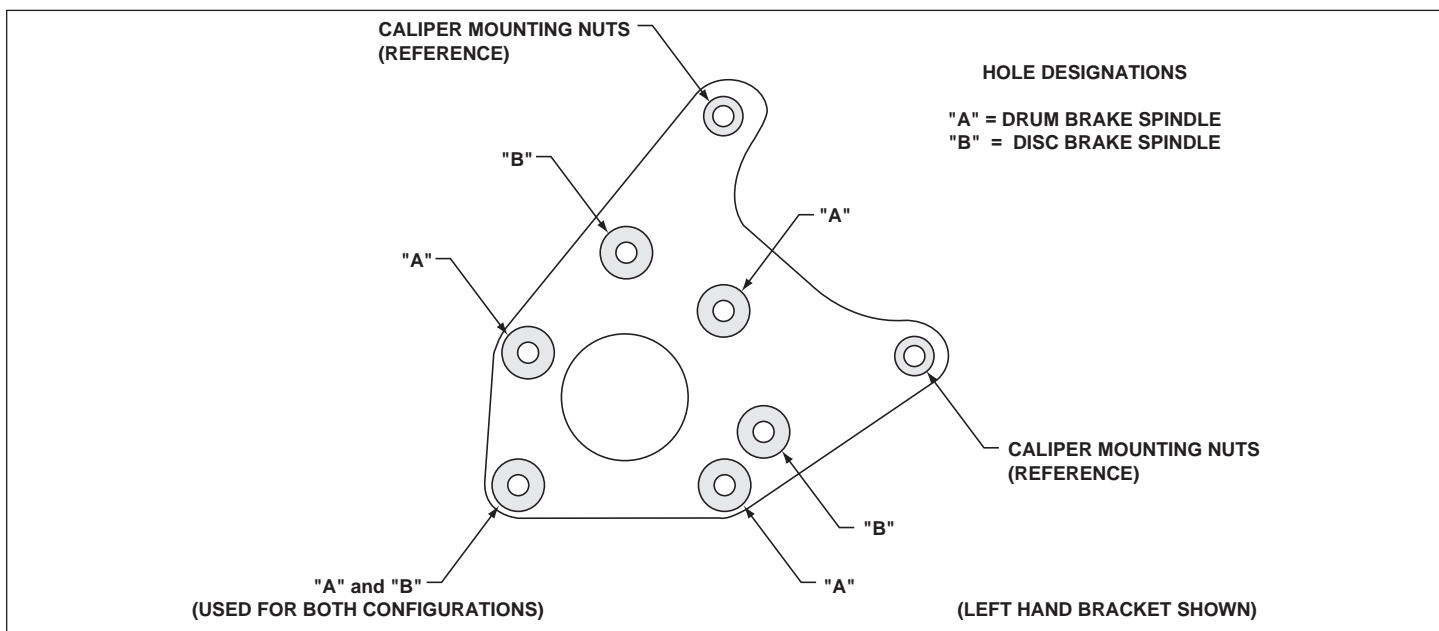
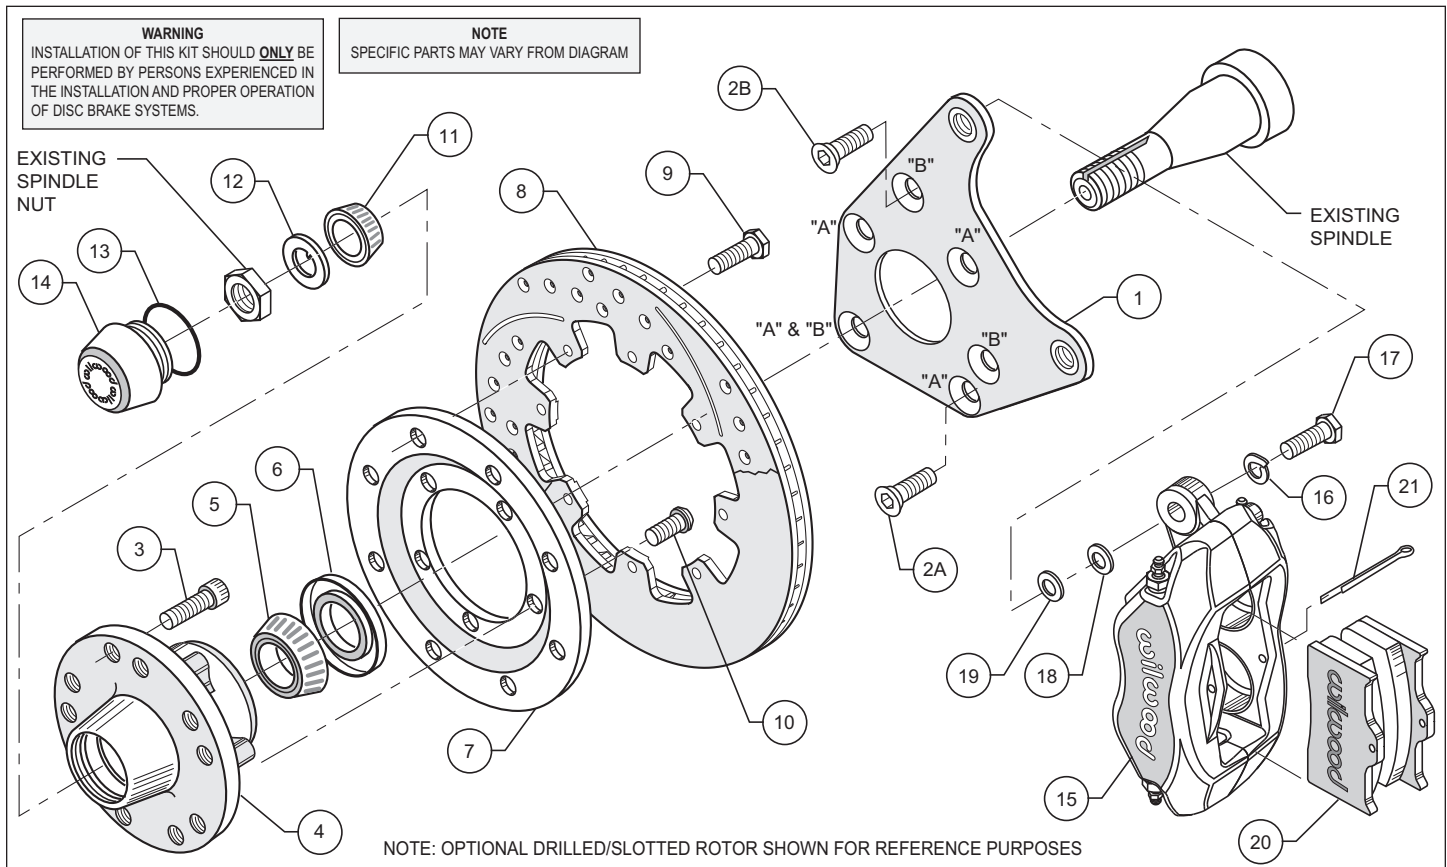

Figure 1. Wilwood Caliper Mounting Bracket
Figure 2. Typical Installation Configuration
This kit has been designed for use with both the disc brake or the drum brake configuration of vehicle. The only difference is in how the Wilwood caliper mounting bracket is installed. The same bracket is used for both configurations; the disc brake version utilizes three mounting holes while the drum brake application uses four mounting holes (see Figure 1). For your convenience we have supplied bolt kits for both applications (see parts list and Figure 2 as necessary, item(s) 2A and 2B). Use the bolt kit that is applicable to your vehicle and disregard the other one.
These modifications should be performed by a qualified machinist and completed before assembly of the Wilwood disc brake kit begins. Using the caliper mounting bracket as a template (refer to figure 1 as necessary), locate and verify the three original stock holes on the steering arm that need to be modified. Drill a .332 diameter hole through all three holes, then tap 3/8-24 UNF (fine thread). Countersink the holes to .438 x 90°.
- As mentioned before, this kit uses the same mounting bracket (1) for both the drum and disc brake spindle. The drum version utilizes four mounting bolts (designated with a "A"), while the disc only requires three (designated with a "B"). Refer to figure 1 and figure 2 as required for the basic installation position of the bracket and the "A" and "B" reference designations (these designations are not physically marked on the bracket, they are referenced on the drawings for your convenience) and align using the three or four holes (as applicable) to the face plate of the steering arm. Install bolts (2A or 2B) through caliper mounting bracket (1) into steering arm, finger tighten only. After you are positive of the bracket (1) alignment, remove the mounting bolts (2A or 2B) one at a time and Apply red *Loctite*® 271 to bolt threads (2A or 2B), then reinstall. Torque bolts 2A or 2B to 30 ft-lb. **NOTE:** Be sure the heads of the bracket (1) insert nuts are facing outward toward the wheel.
- Install wheel studs (3) into the hub (4). Torque to 77 ft-lb. **NOTE:** There are two (2) five lug patterns in the hub (5 x 4.50 and 5 x 4.75). Make sure of the correct hole pattern for the correct wheel application before installing studs into hub.
- Pack the large inner bearing cone (5) with high temperature disc brake bearing grease (available from your local auto parts store) and install into the backside of the hub (4).
- Install the grease seal (6) by pressing into the backside of the hub (4).